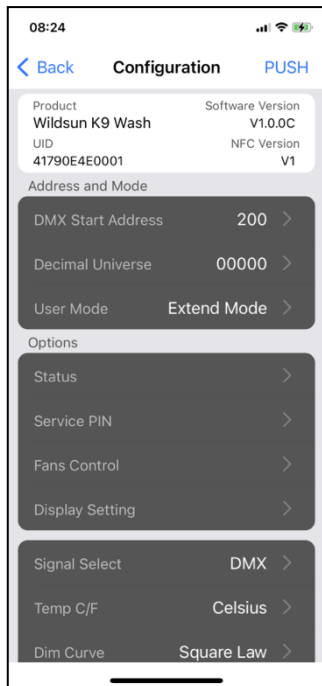
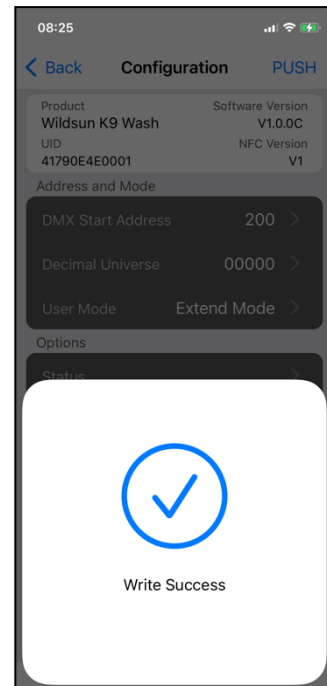

Figure 7
Figure 9
3) Tap 'PUSH' on the upper right corner (Figure 7,8) and place the NFC scan area of your mobile phone close to the NFC tag area of the fixture to write into the NFC tag (Figure 9).